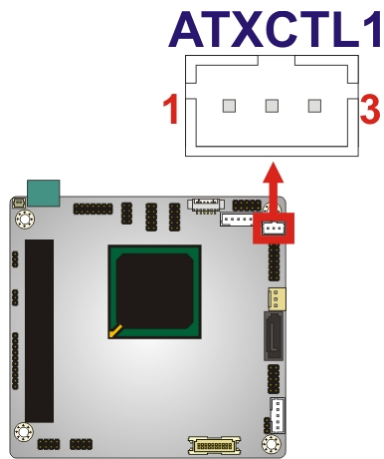

Figure 4-3: AT/ATX Power Mode Jumper Location
- Jumper Location:** See Figure 4-3